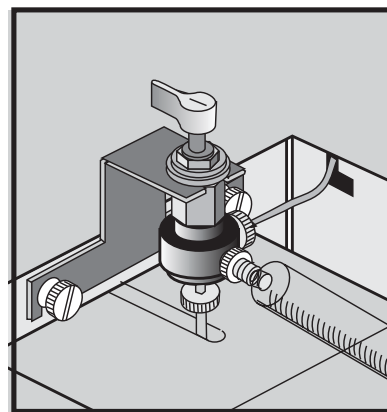

Figure 4.10. Syringe Injection
2. Attach the syringe to the Model 4560 sample injection valve syringe port (see Figure 4.10).